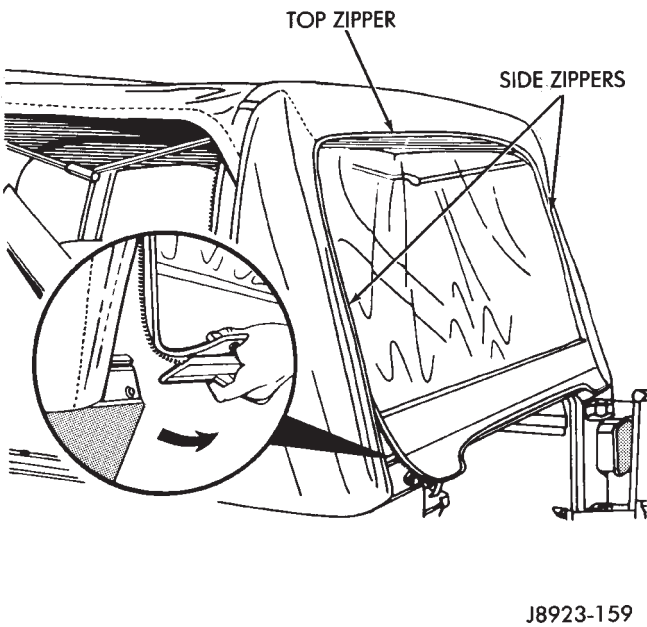

Fig. 106 Rear Curtain Upper and Side Zippers
(9) Open the rear curtain upper and side zippers (Fig. 106).